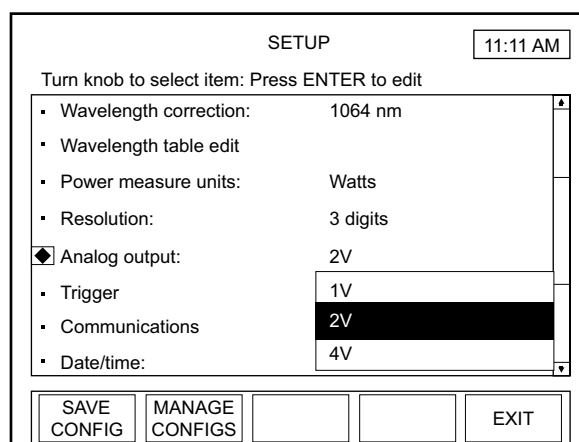

Figure 4-50. SETUP: Analog Output
2. Press the ENTER/SET button to display a dropdown list of available voltages (similar to the list shown in Figure 4-50).